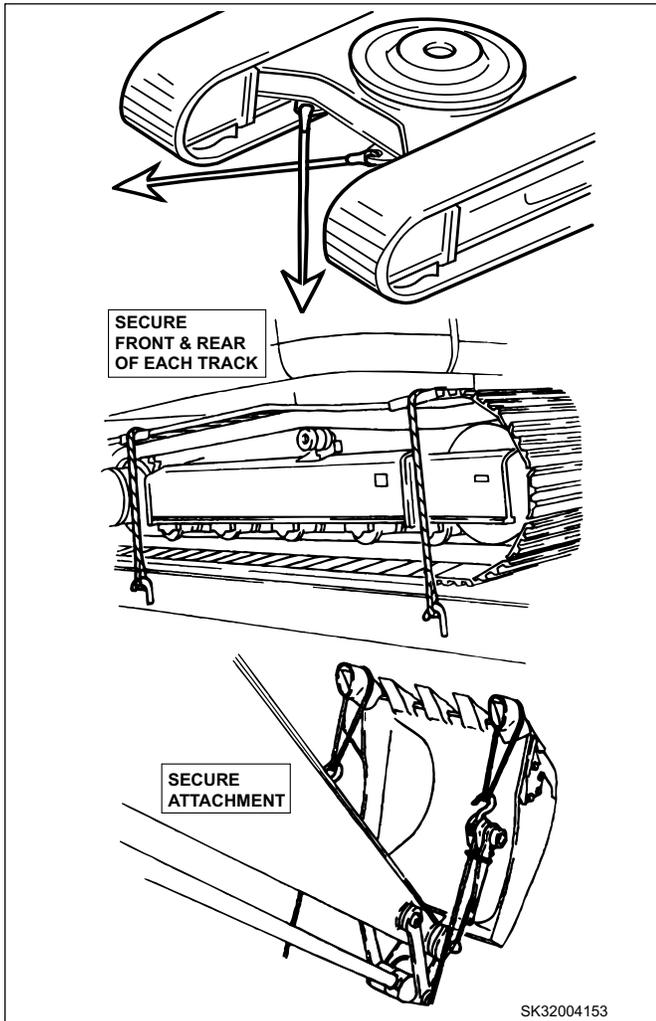

FIGURE 5.5A
- a. Use cable or wire rope with sufficient capacity to secure front and rear of the machine to trailer. See Figure 5.5A. Chock the tracks, use the lower frame front and rear brackets to secure machine to trailer. Also, make sure to secure front and rear of each track.